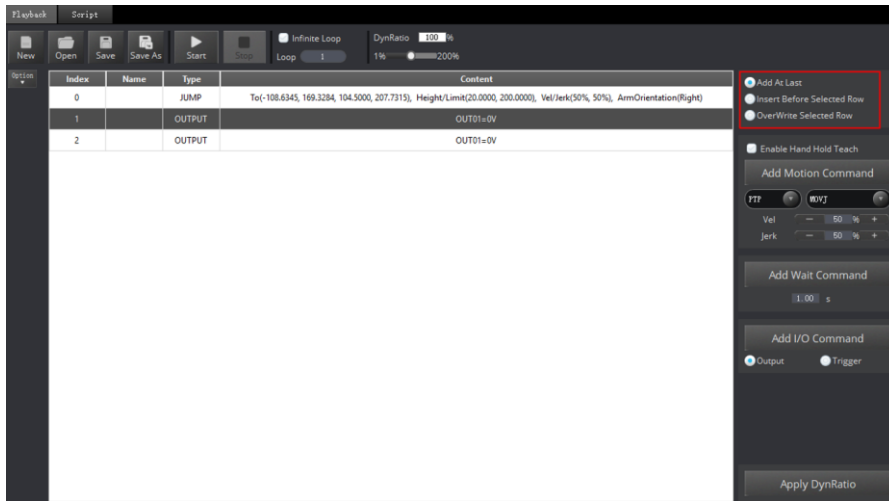

Figure 6.9 Overwrite the current saved point
- Before saving a point, you can select the location of the added point on the right pane of the **Playback** page, as shown in Figure 6.9